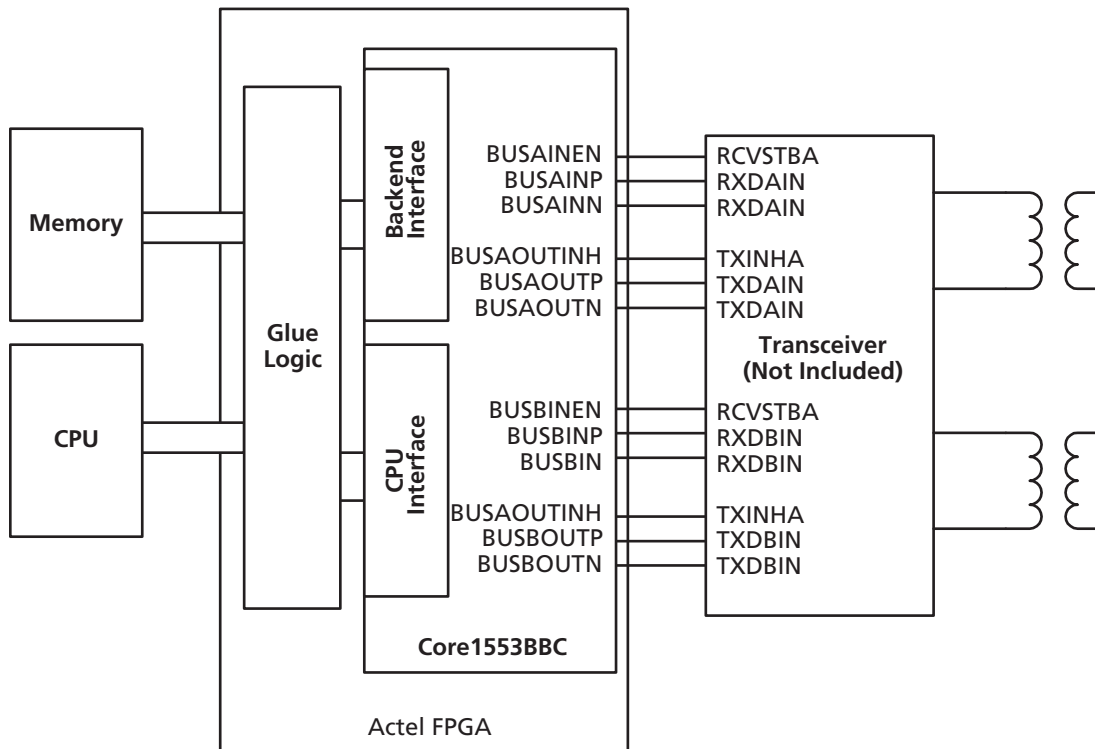

Figure 1 • Typical Core1553BBC System
The Core1553BBC provides a complete, MIL-STD-1553B Bus Controller (BC). A typical system implementation using the Core1553BBC is shown in Figure 1.